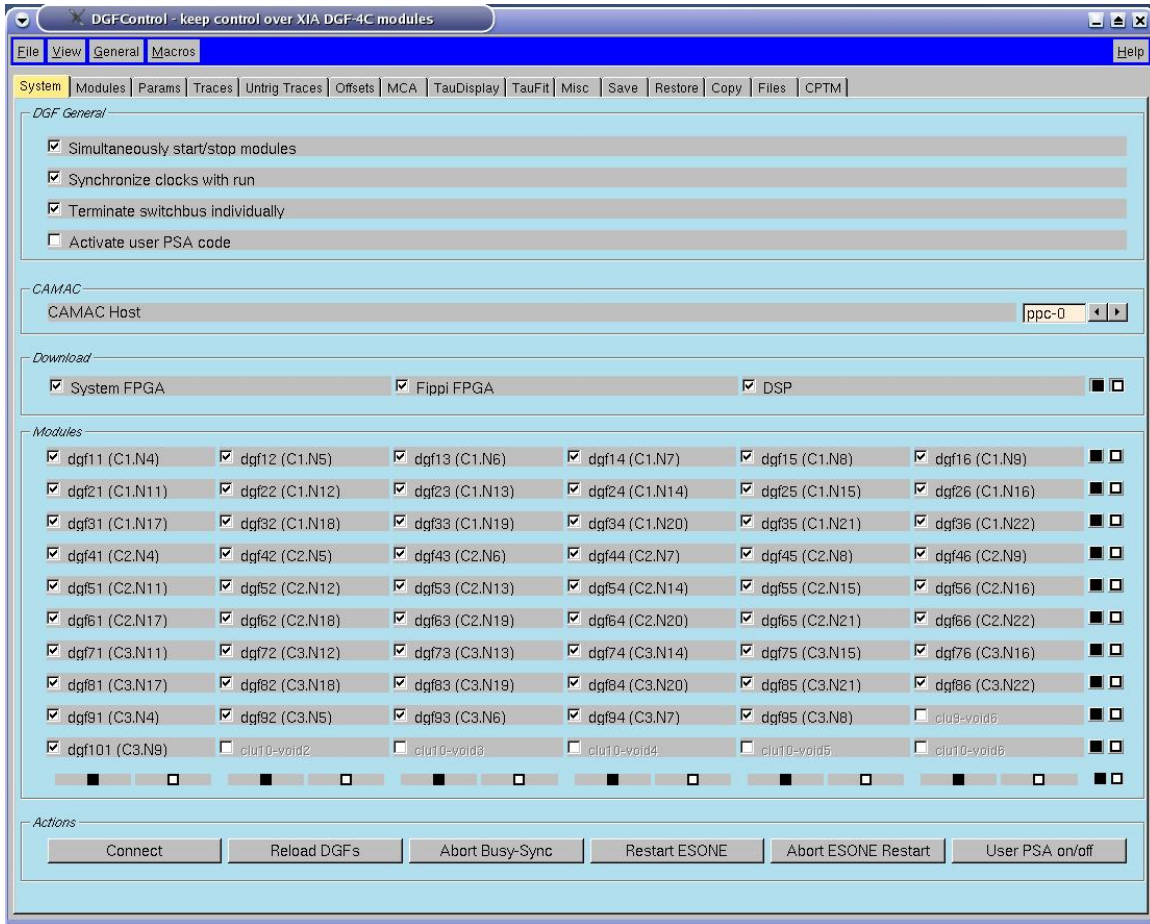

Figure 12: DgfControl: how to set up and control XIA DGF-4C modules
The main (`system`) tab should then show up at your screen (fig. 12).
- **System** (fig. 12)